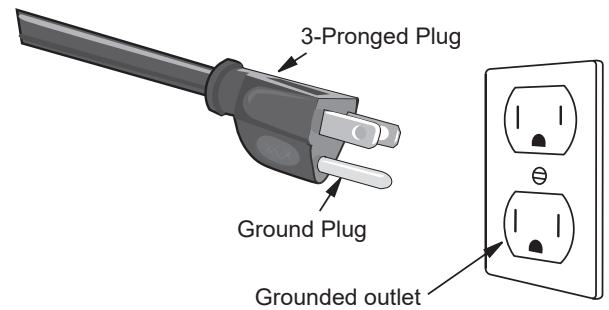

Figure 1
- For personal safety, the cooktop must be properly grounded. A properly grounded 3-prong receptacle (see Figure 1) should be located 12" below the countertop and within reach of the cooktop's four-foot power cord.